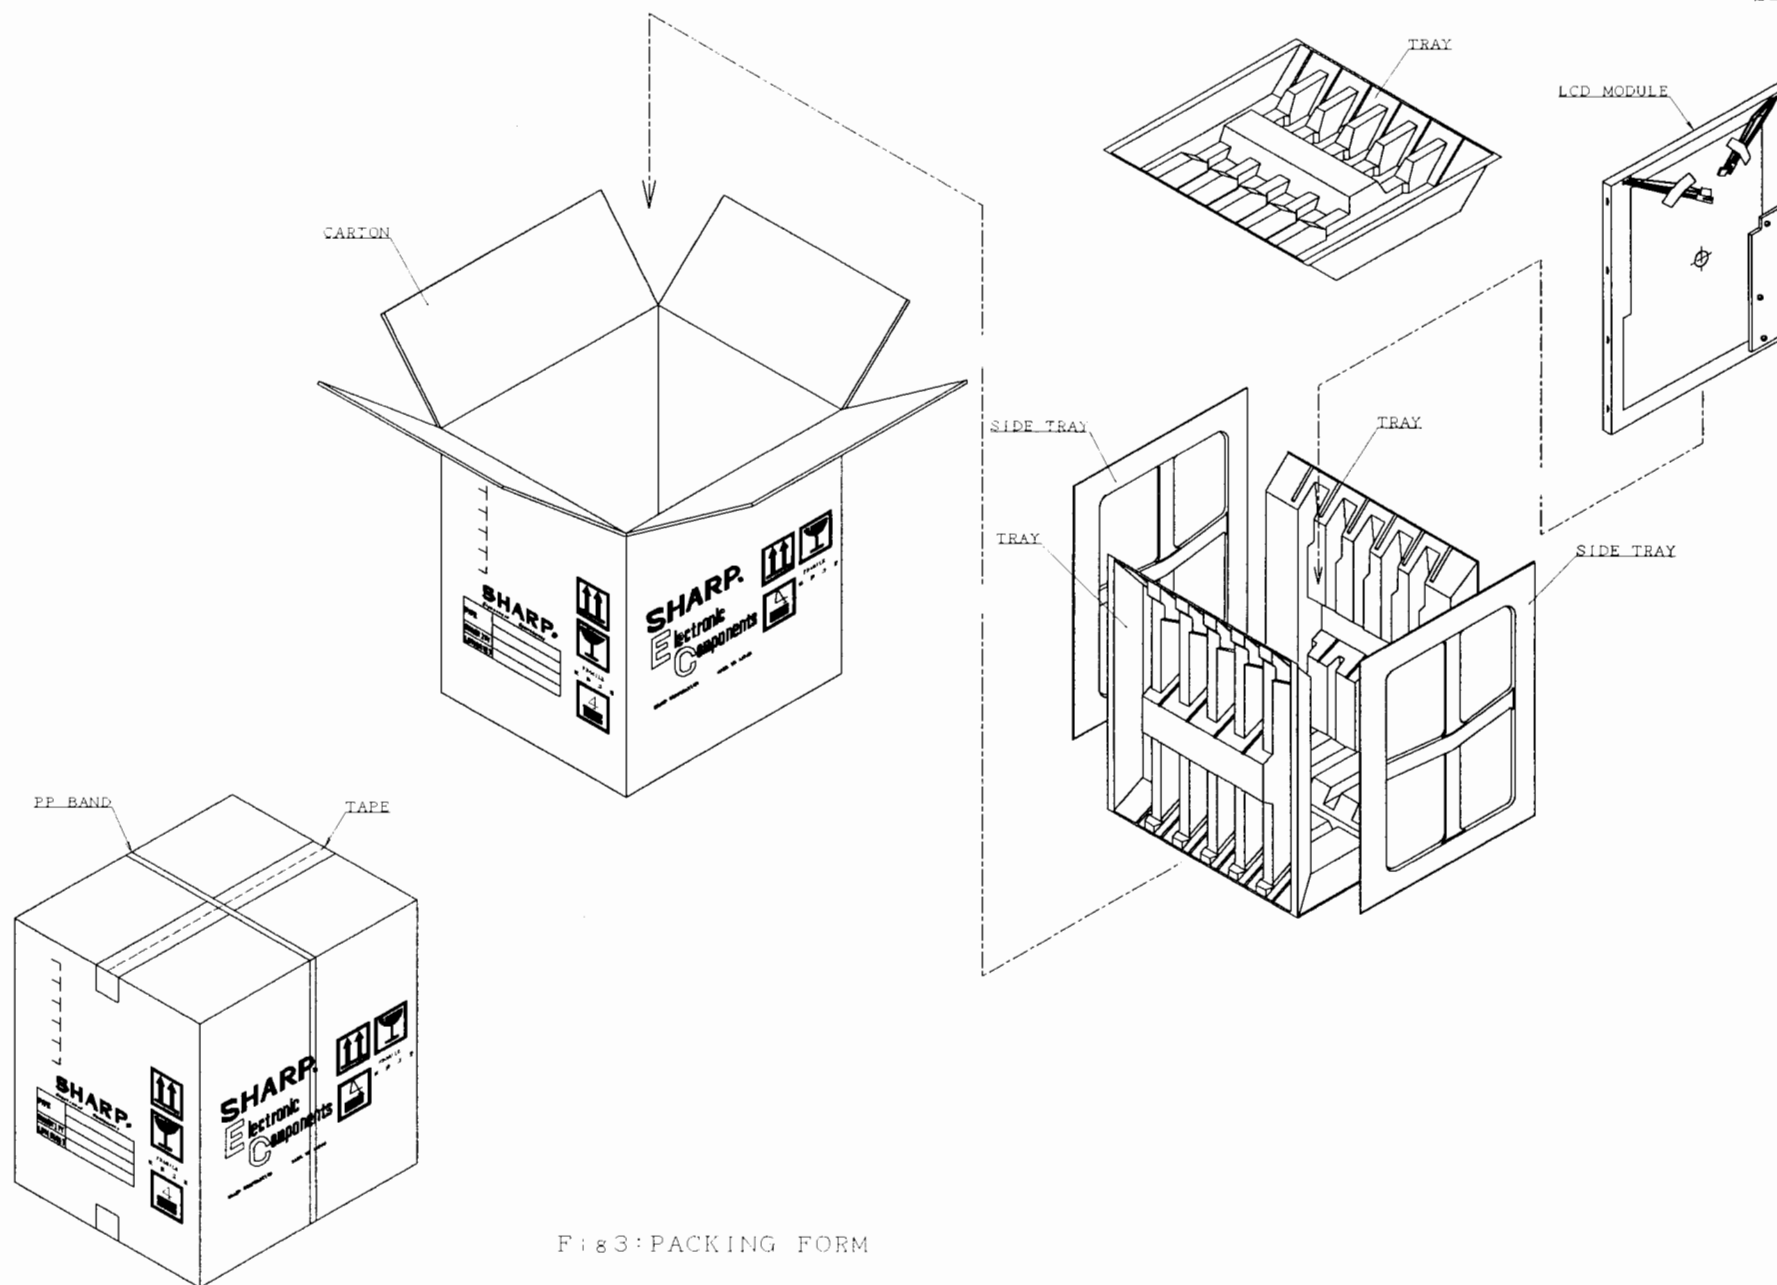

FIG 3: PACKING FORM
- c) Carton size : 363(W) x 277(D) x 440 (H) mm
- e) Packing form : Fig.3